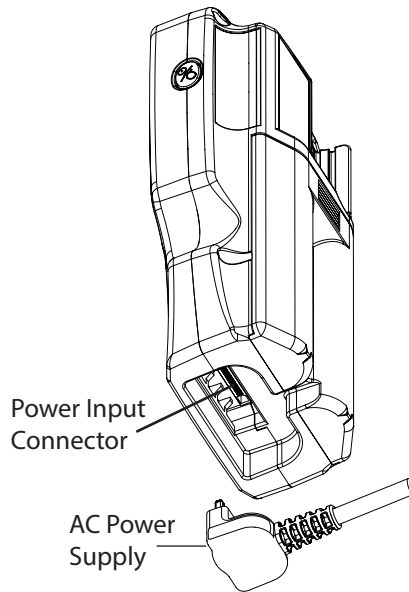
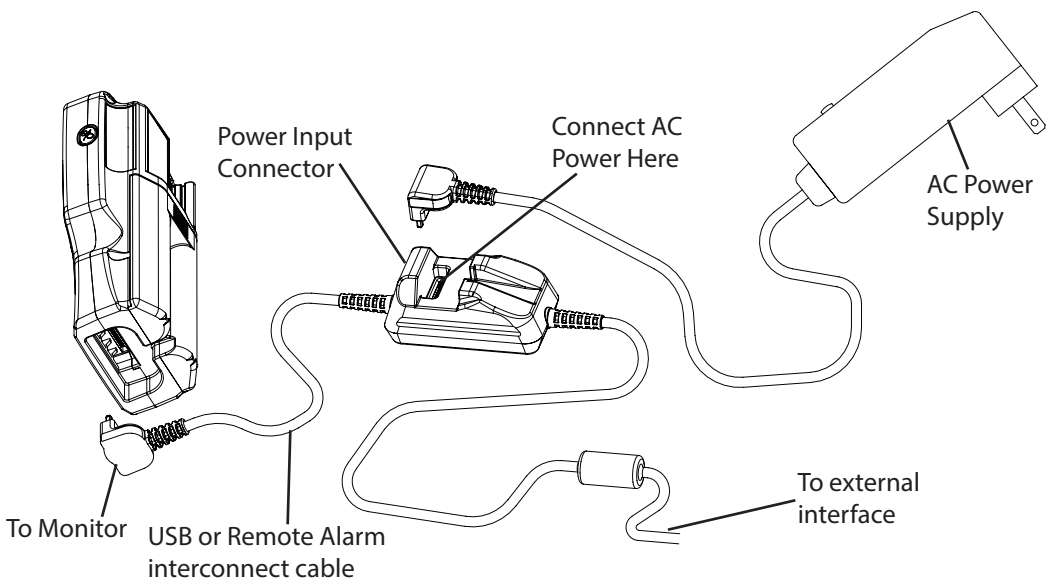

Figure 4-3: AC Power Supply
Figure 4-4: Interconnect Cable
- The AC power supply can be plugged directly into the oximeter. See Figure 4-3.
- The AC power supply can be plugged into one of the interconnect cables (Figure 4-4):
The AC power supply can plug into the oximeter (Figure 4-3) or into an interconnect cable (Figure 4-4): the WW1089 USB interface cable or the WW1067 remote alarm cable.